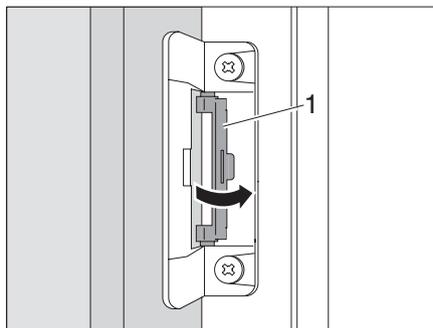

Fig. 92 Turning the locking mechanism back to the initial position
- ▶ Turning the locking mechanism (Fig. 92,1) back to the initial position.